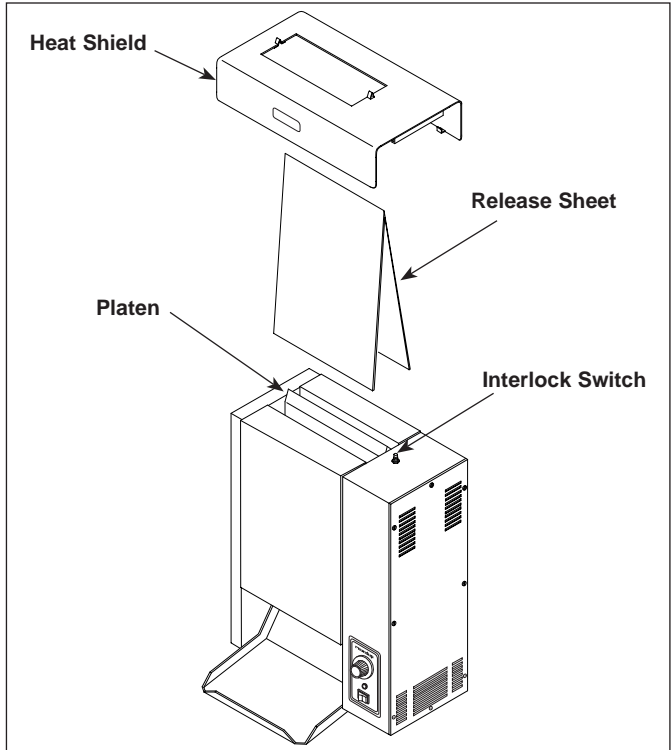

Figure 7. Removing/Installing the Release Sheet
1. Make sure the unit is turned off, the power cord is unplugged, and the unit is cool. Put on heat resistant gloves. Remove the Release Sheet (Figure 7).
7. Install the Release Sheet by draping it over both sides of the Platen with the crease centered directly on the Platen (Figure 7).
8. Install the Heat Shield (Figure 7). The Heat Shield clips fit over the tip of the Platen and retain the Release Sheet in place.
IMPORTANT: Make sure the Heat Shield is activating the Conveyor Interlock Safety Switch (see Figure 7). The conveyors will not rotate unless the Heat Shield is in place and Conveyor Interlock Safety Switch is activated.